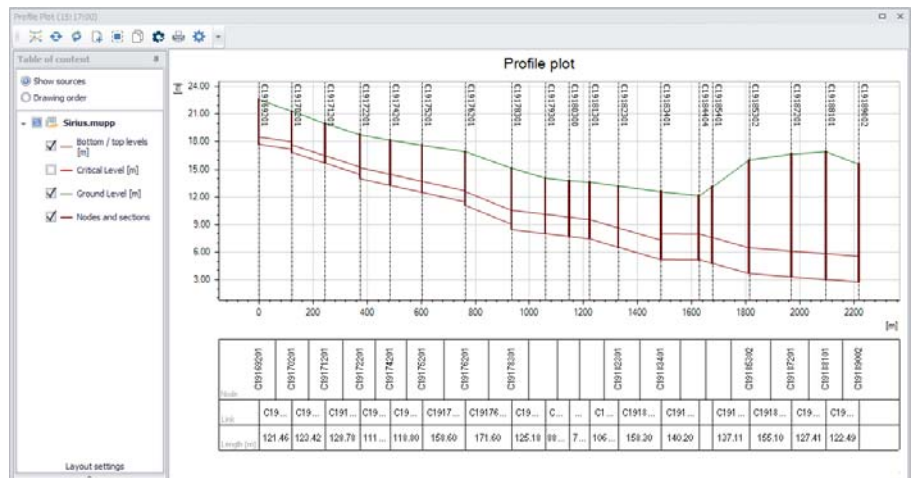

Figure 20.31 The Profile Plot form window showing an example longitudinal profile plot without simulation results
- Finally, click on 'Draw profile' on the Profile and Tracing toolbox. This will create a new profile plot (Figure 20.31).